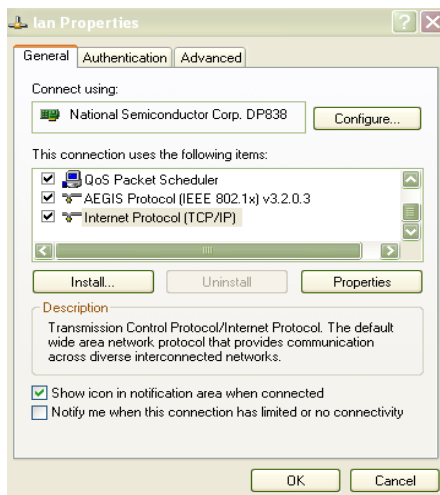

Figure 3.0
6. Double-click the **Internet Protocol (TCP/IP)** line (figure 3.0)
- 7.) Double-click the **Internet Protocol (TCP/IP)** line (figure 3.0)